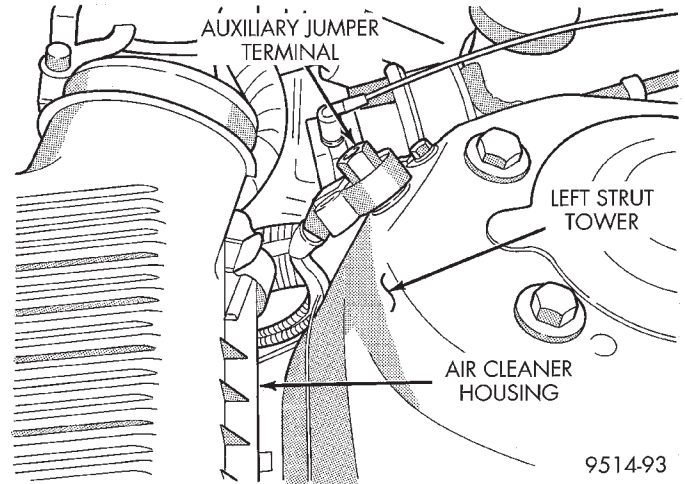

Fig. 9 Battery Cable
(1) Release fuel pressure, Refer to Fuel System Pressure Release Procedure in the Fuel Delivery section.
(2) Disconnect battery cable (Fig. 9).